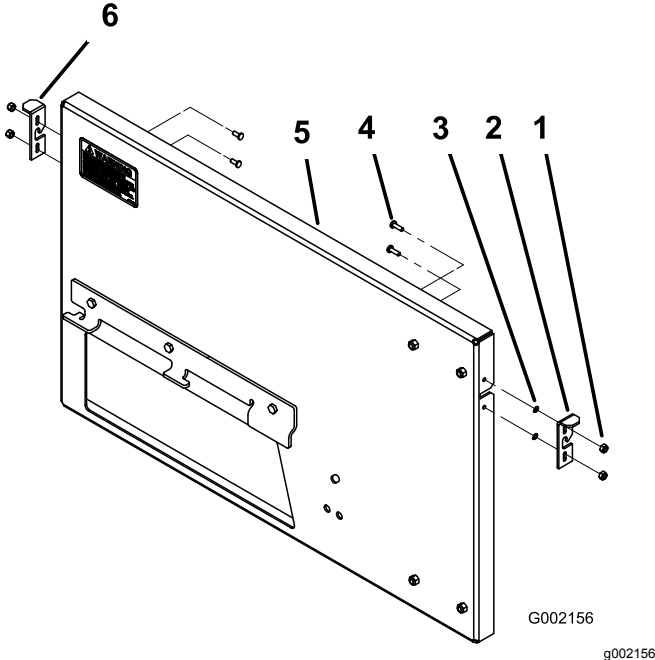

Figure 3
3. Install the latches to both sides of the back plate using 4 phillips-head screws, lock washers, and locknuts (#10) as shown in Figure 3.